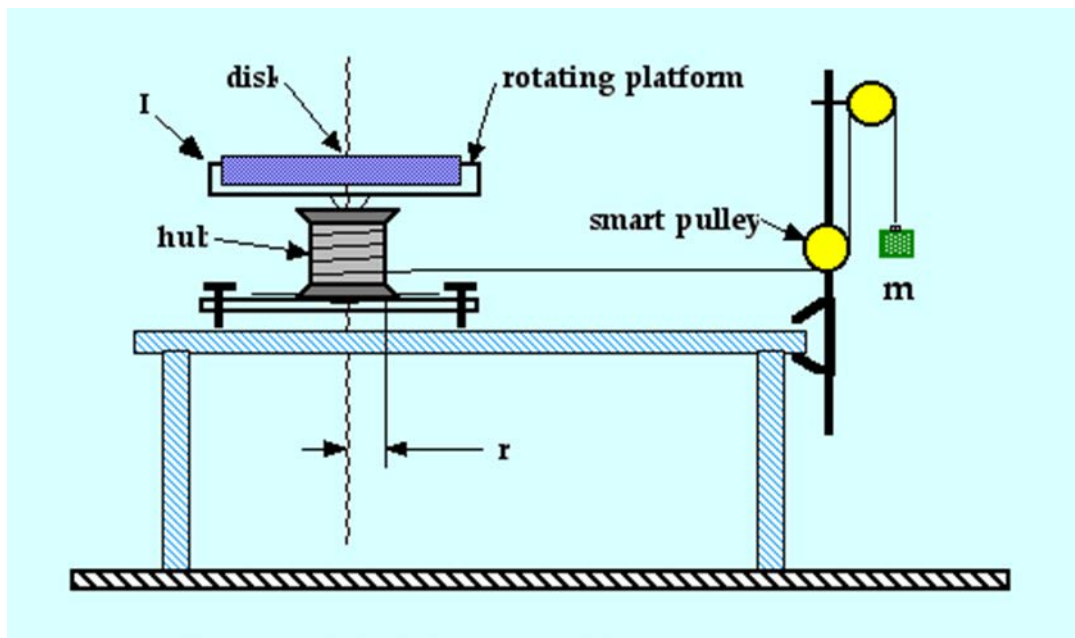

Figure 13.2
The apparatus used in this lab is shown in Figure 13.2. The rotating components of the experiment consist of a hub with radius  $r$ , attached to a platform upon which a disk may be placed. A cord that is wrapped around the hub is attached to a mass holder. When mass is placed on the end and is allowed to fall, the gravitational force on the mass will create a tension in the cord which will cause the hub to rotate by applying a torque. The amount of torque applied to the hub will be
3) **Measure and record** the mass of the lighter of the two mass holders. Then, hang it from the free end of the cord as shown in Figure 13.2. Label this as  $m_{light}$ . Attach the other end of the string to the small peg on the side of the hub and wind the platform to pull the string up so that the mass holder is at its highest point, near the pulley. Then hold the platform in place.
- 17) **Measure and record** the mass of the heavier of the two mass holders. Then, hang it from the free end of the cord as shown in Figure 13.2. Label this as  $m_{heavy}$ .
Adam and Jamie are doing the Rotational Dynamics lab “on a grand scale.” They weld a 55-gallon oil drum (diameter 0.59 m, height 0.91 m) onto a steel bracket designed to hold a large concrete disk. Together, this hub (the drum) and platform can rotate around a vertical axis on a low-friction bearing as shown in Figure 13.2 (see the lab Introduction). They wrap a heavy steel cable around the circumference of the drum and lead it through two pulleys, as shown, so that different masses can be attached. The weight of these masses provides the force tangent to the surface of the drum - a torque - that in turn provides the angular acceleration of the hub, platform, and (when it is installed) the concrete disk.